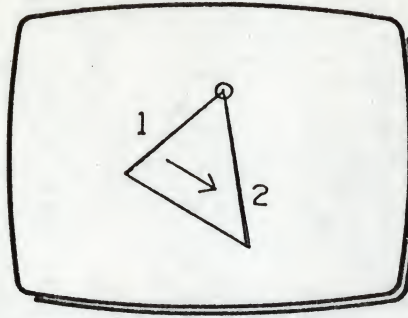

Fig 1
- 2 Select the NIB from the palette (see Fig 1).
- 2 Draw a medium size triangle, if the triangle is too large the NIB will not fit (see Fig 1).
- 4 Press and hold R and rotate Z to alter the nib angle to match side (1) in Fig 1.
- 6 Rotate Z to enlarge the nib to the length of side (1) in Fig 1.
- 7 Move XY to position the nib over side (1) in Fig 1, adjusting the nib length to fit it. Note that the small diamond should be at the top of the triangle.